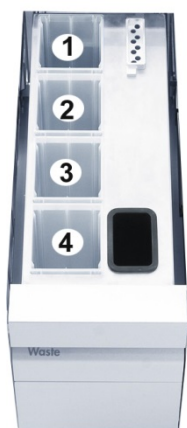

Figure 1. Position of unit boxes.
- Insert empty unit boxes (see Table 4 and Figure 1). Make sure that there is at least one empty unit box in slot 4 (closest to you).